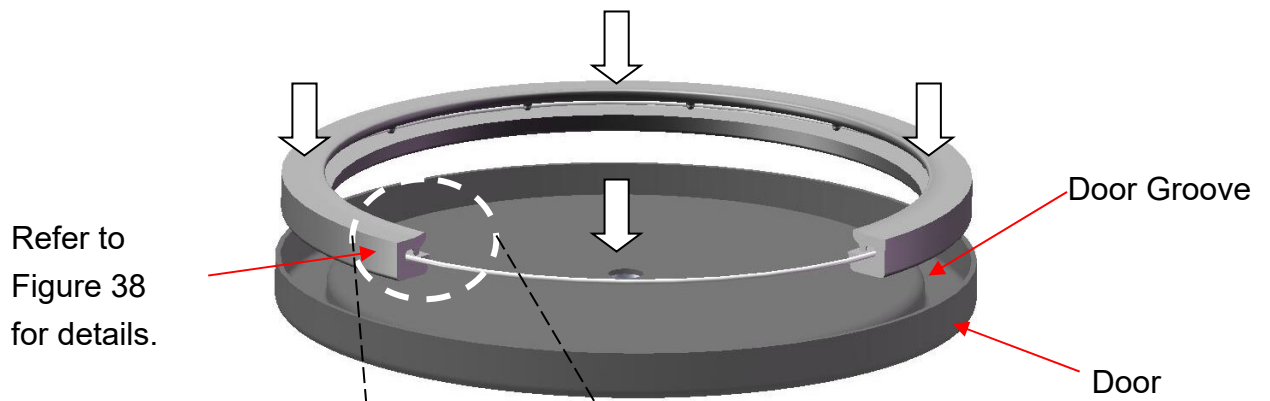
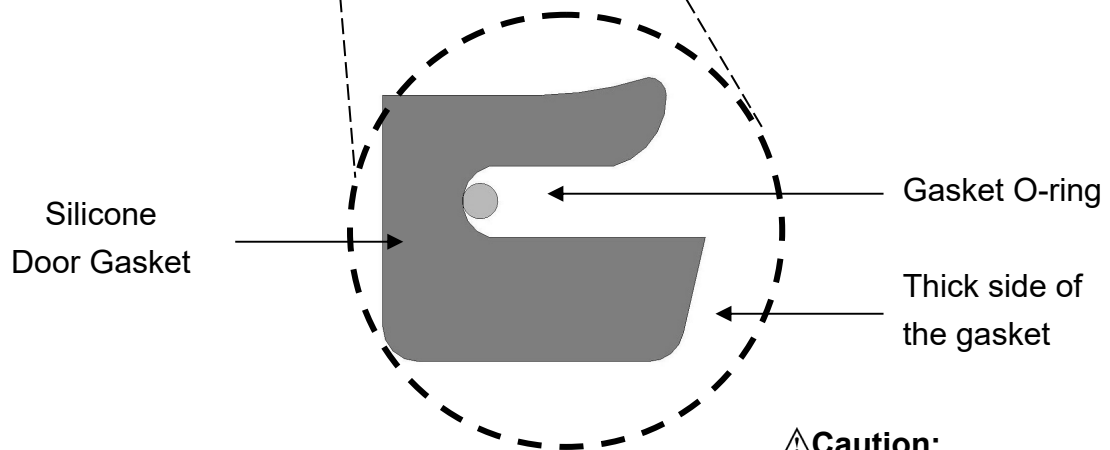

Figure 59
Figure 60
3. Install the gasket with the o-ring inside to the door groove. Press the gasket into the door groove evenly as Figure 59. Take notice of the installation direction while pressing the gasket into the groove as the gasket is designed with a trapezoidal section. Refer to Figure 60 for the correct direction.